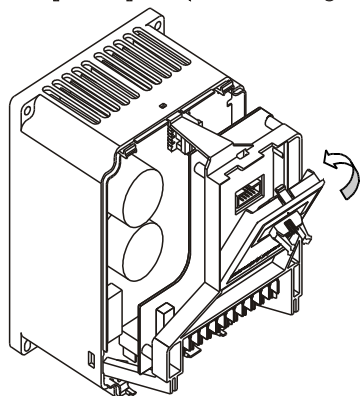

Fig. 3-9 Mounting Diagram of the operator panel and connecting wire of the inverter Model A
Step 3. Fix the jack panel provided in the optional components in the installation position of operator panel (as shown in Figure 3-9).